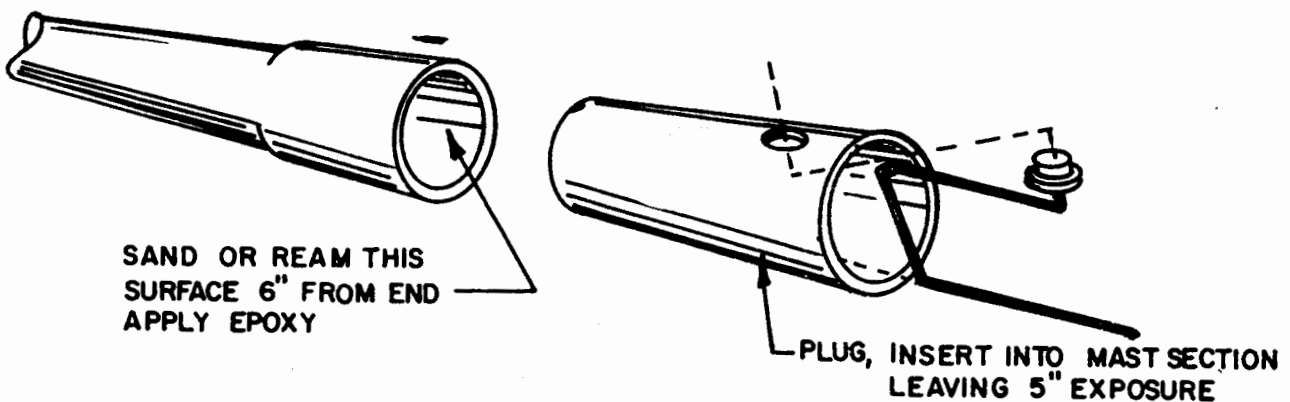

Figure 3-10 Replacing Mast Plug
(1) Using a barrel sander or a 1 1/2" reamer, remove excess pieces of mast plug and epoxy from inside wall of upper fiberglass mast section. The reamer or sander whichever is used, must be allowed to penetrate a minimum of 5" into the mast section.
(2) After all pieces of the plug and epoxy have been removed, epoxy outside wall of new mast plug 6" from end by following instructions on epoxy kit (not supplied with this product). Epoxy should be applied to both surfaces. Refer to Figure 3-10.
(3) The new mast plug should then be inserted to a depth of 6".
(4) Once the mast plug is in place allow epoxy to dry and cure undisturbed for a period of 24 hours.